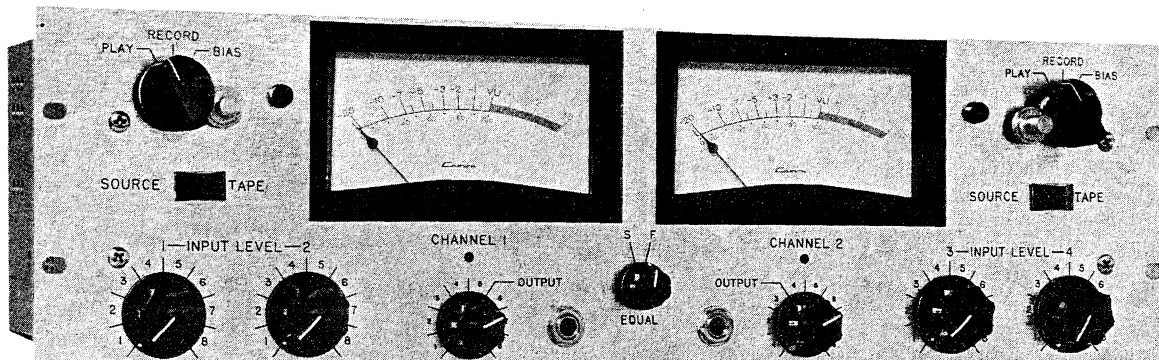

FIG. 7-4 SX FRONT
The SX record/reproduce amplifier uses all silicon planar transistors and the highest quality construction throughout, (see fig. 7-4).
7.3 OPERATING INSTRUCTIONS (See Fig. 7-4)